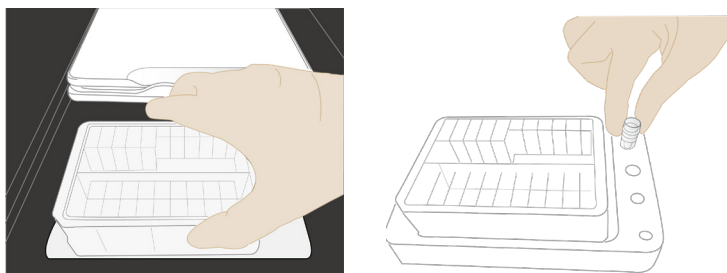

Figure 6 Post-loading plate placement diagram
7. Place the 0.5 mL micro tube containing DNB loading mix into the DNB tube hole (see *Figure 6 on Page 49*), the screen will prompt that the DNB tube is loaded.